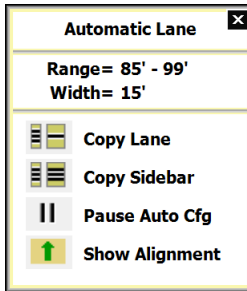

Figure 6.4 – Automatic Lane Window
- 3 Click on the desired automatic lane in the sidebar (when the sidebar is set to 1) and the Automatic Lane window will appear (see Figure 6.4). This window allows you to select the lanes you want to appear in the roadway. To have all lanes appear in the roadway, click the **Copy Sidebar** button; to have individual lanes appear in the roadway, click the **Copy Lane** button. You can also copy the entire sidebar and then delete the unwanted lanes by clicking on them and selecting **Delete**.